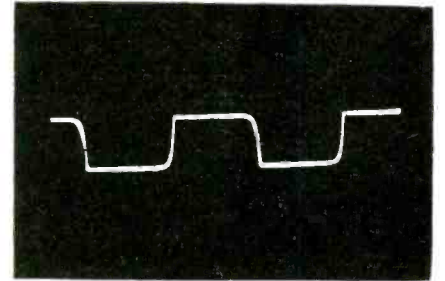

Fig. 6 — High Freq. phase shift.
A. Rounded corners indicate high-frequency attenuation, if all corners are rounded. However, if diagonal corners are rounded, as shown in Fig. 6, it is indicated that phase shift is occurring at high frequencies.